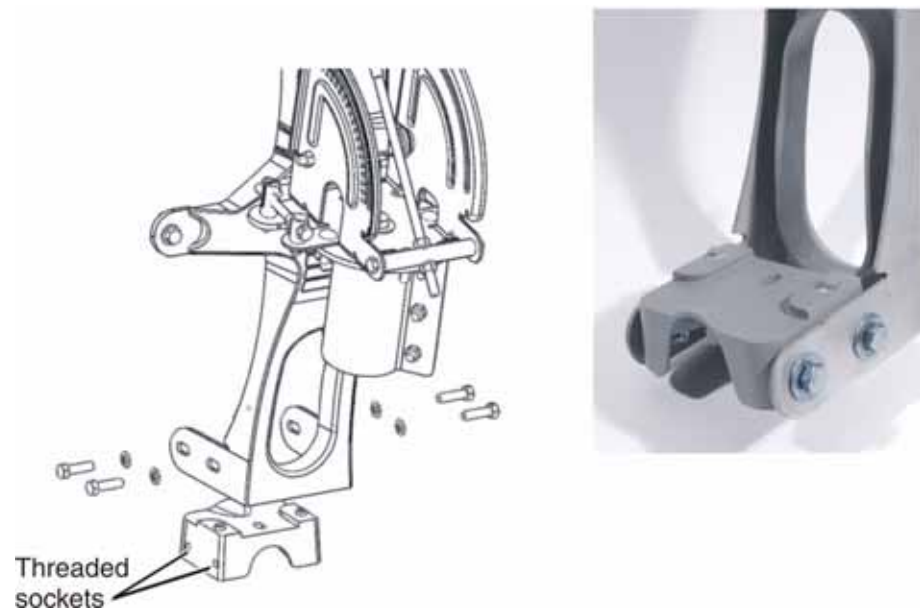

Figure 12: Attaching the adapter block to the reflector bracket
5. Fit the adapter block between the extensions on either side of the reflector bracket arm in the position shown in Figure 12.